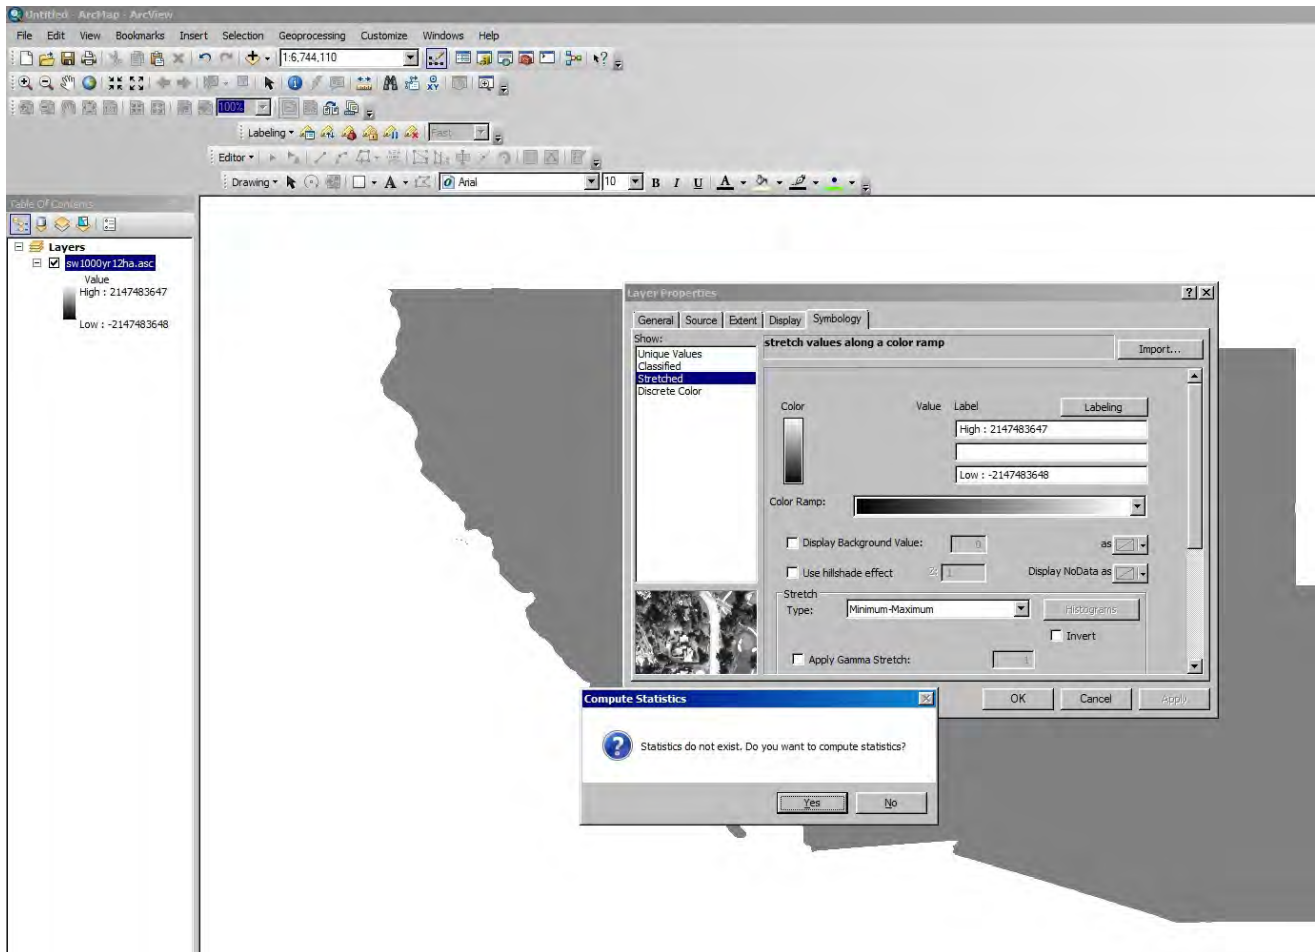

Figure 3 – Changing ARI Grid Layer Symbology
3. No symbology will initially be established for the layer. Go to the symbology tab in the Layer Properties GUI and change the stretched type to Minimum-Maximum. You will be asked if you want to compute statistics. Click Yes. Apply the changes if needed and exit the Layer Properties GUI. See figure 3 below.